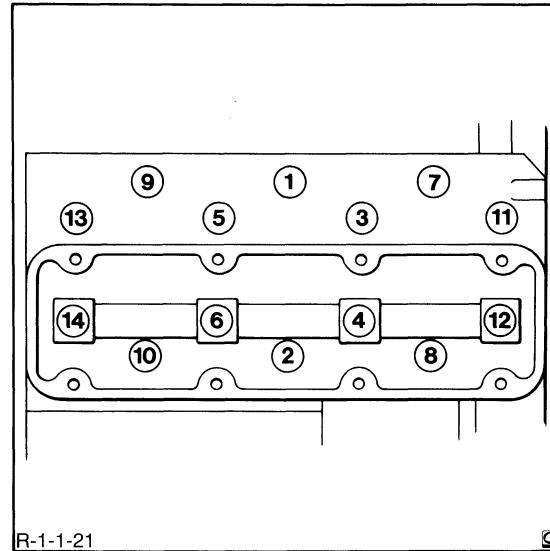

Figure 21
- Tighten the cylinder head retaining bolts in the sequence shown in Figure 21 and progressively in three steps as follows: